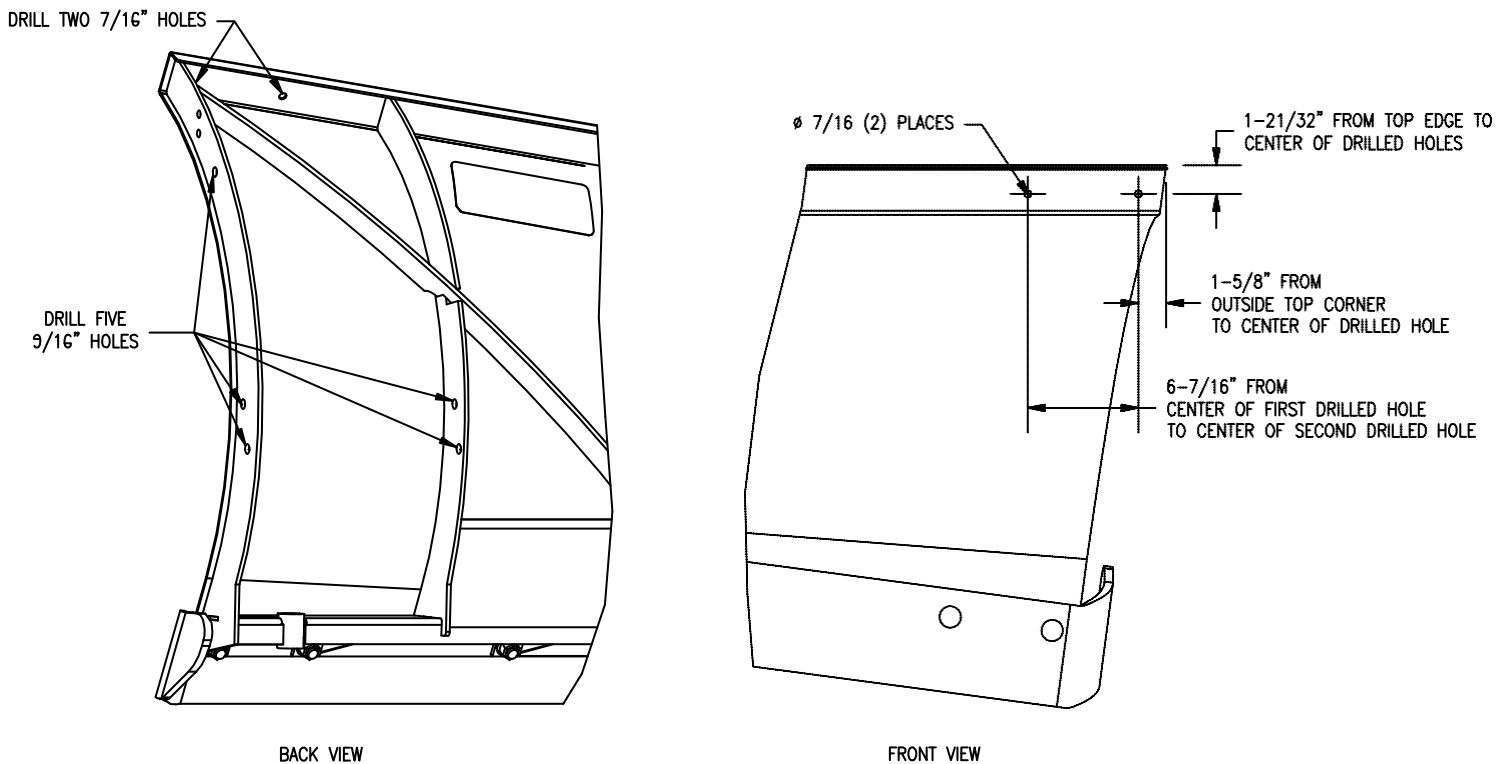

Figure 7. Blade Top Drilled Hole Measurements (INSIDE TOP POLY-V HOLES ARE PRE-CUT)
- 2) On the driver side of plow, measure, mark, and drill two 7/16" diameter holes in blade top. See Figure 7.